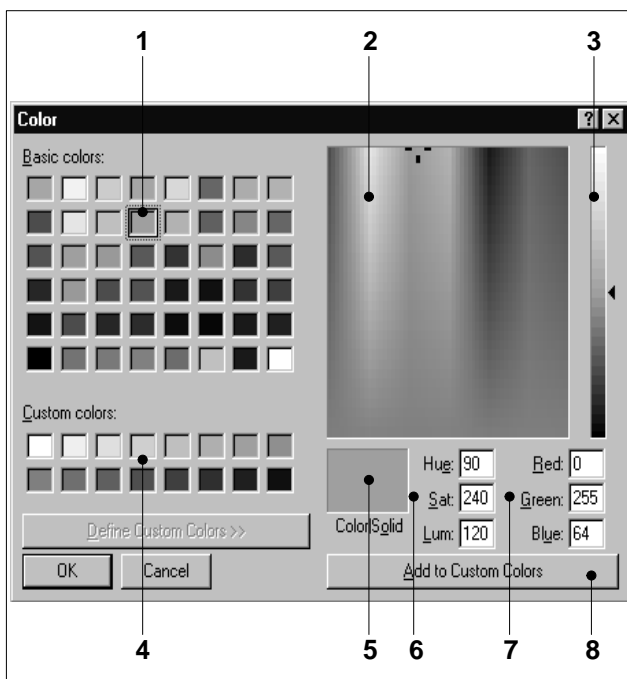

Fig. 14 The *Colors* dialog window
1. Click on the color box you wish to select (Fig. 14/1).
- Click the mouse button on the box (Fig. 14/2).
1. Click on the color box you wish to select (Fig. 14/4).
1. Enter the required values for color, saturation and brightness (Fig. 14/6).
1. Enter the required values for red, green, and blue (Fig. 14/7).
1. Click on the black arrowhead to the right of the color saturation bar (Fig. 14/3).
2. Keep the mouse button depressed and drag the arrowhead to the required color saturation. The currently selected color is displayed in the preview area (Fig. 14/5).
The currently selected hue, that is displayed in the preview area (Fig. 14/5), can be entered in the palette of user-defined colors.
1. Click on the *Add colors* button (Fig. 14/8). The selected hue is entered in the palette of user-defined colors and displayed there.